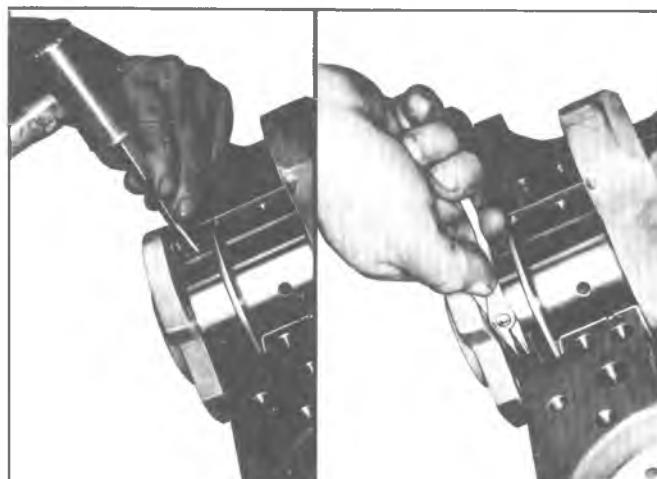

Fig. 12L—Removing Oil Seal (Upper Half) Typical
3. To remove the upper half of the seal, use a small hammer to tap a brass pin punch on one end of seal until it protrudes far enough to be removed with pliers (fig. 12L).